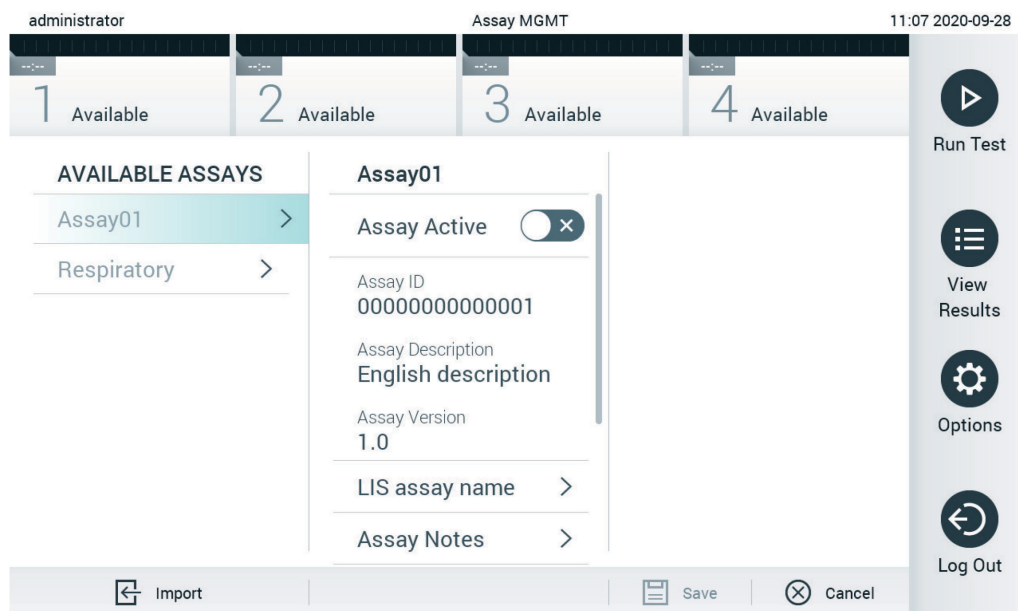

Figure 60. Assay management screen.
2. To import the new assay(s) to the QIAstat-Dx Analyzer 1.0, press the **Options** button and then the **Assay Management** button. The **Assay Management** screen appears in the content area of the display (Figure 60).